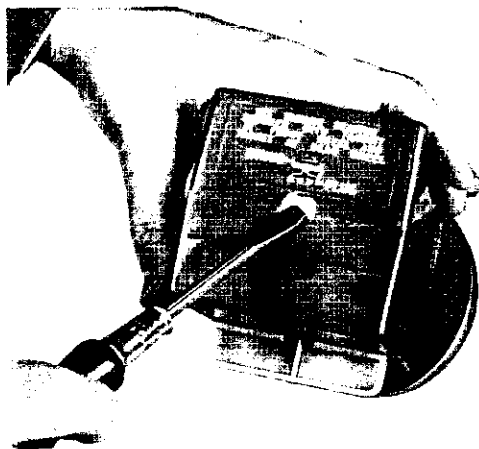

Fig. 91—Adjusting the Floor Level Compensator in the Aimers
(4) Turn the dial on the side of the transit until the bubble in the spirit level is centered.
(5) When the bubble is centered, note "plus" or "minus" reading on the compensator scale. This figure indicates the degree of slope of the floor and must be transferred to each aimer as follows:
(6) With a screwdriver, turn the adjusting slot of the floor level compensator in each aimer, until the correct plus or minus figure (or fractional part) appears in the proper window (Fig. 91).